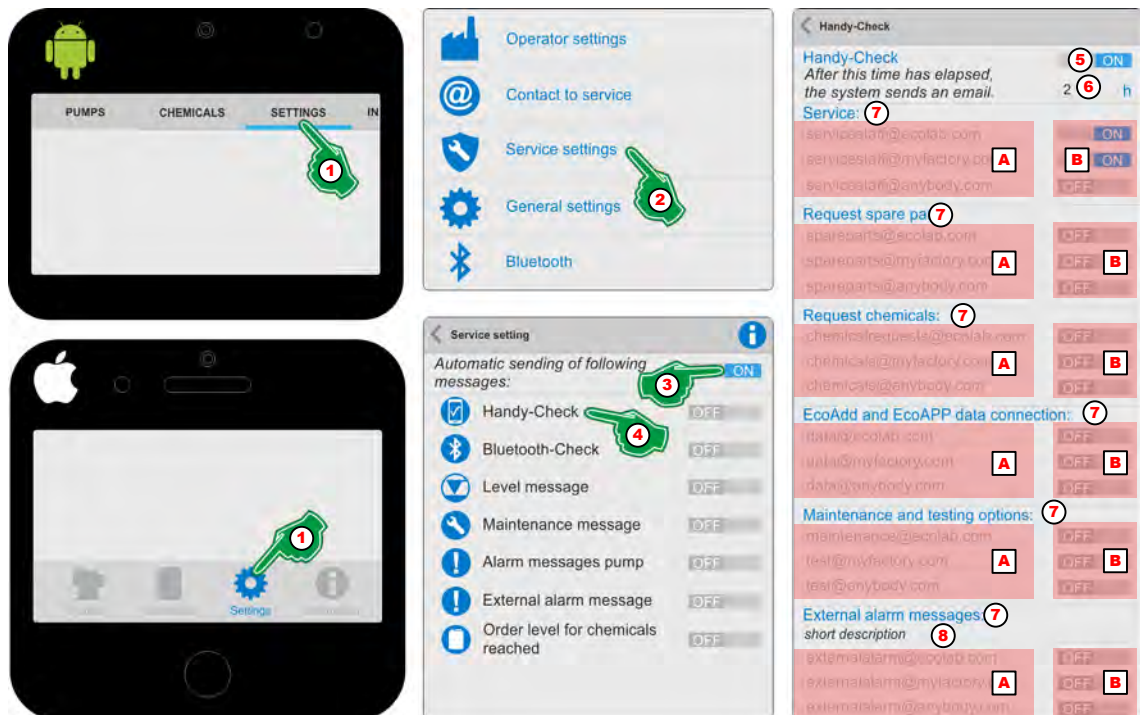
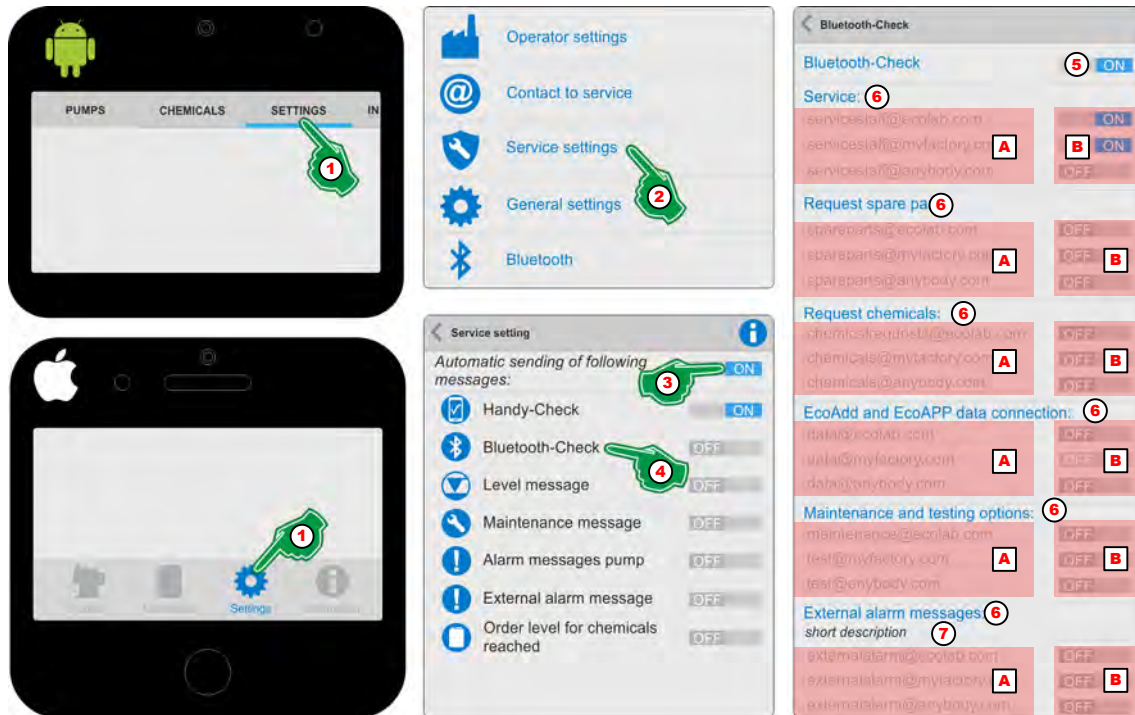

Fig. 45: 'Mobile phone check'
Fig. 46: 'Bluetooth check'
1. ➤ Select [Settings] (Fig. 45, Pos. 1).
2. ➤ Select [Service Settings]  (Fig. 45, Pos. 2).
3. ➤ Turn on 'Automatic sending of following messages' (Fig. 45, Pos. 3) **ON**.
4. ➤ The symbol or designation 'Select Mobile phone check'  (Fig. 45, Pos. 4).
5. ➤ Turn on 'Mobile phone check' (Fig. 45, Pos. 5) **ON**.
6. ➤ Set the desired time difference (Fig. 45, Pos. 6) until an alarm message is triggered if the mobile phone cannot be reached (offline).
7. ➤ Turn on desired service contacts (Fig. 45, Pos. A) **ON** (Fig. 45, Pos. B).
8. ➤ To display errors when using an external controller (Fig. 45, Pos. 7) introduce a short description (Fig. 45, Pos. 8) for identification.
1. Select [Settings] (Fig. 46, Pos. 1).
2. Select [Service Settings] (Fig. 46, Pos. 2).
3. Turn on 'Automatic sending of following messages' (Fig. 46, Pos. 3) **ON**.
4. Select the symbol 'Bluetooth check' (Fig. 46, Pos. 4).
5. Turn on 'Bluetooth check' (Fig. 46, Pos. 5) **ON**.
6. Turn on the desired service contacts (Fig. 46, Pos. A) **ON** (Fig. 46, Pos. B).
7. To display errors when using an external controller (Fig. 45, , Pos. 7) introduce a brief description (Fig. 46, Pos. 8) for identification.